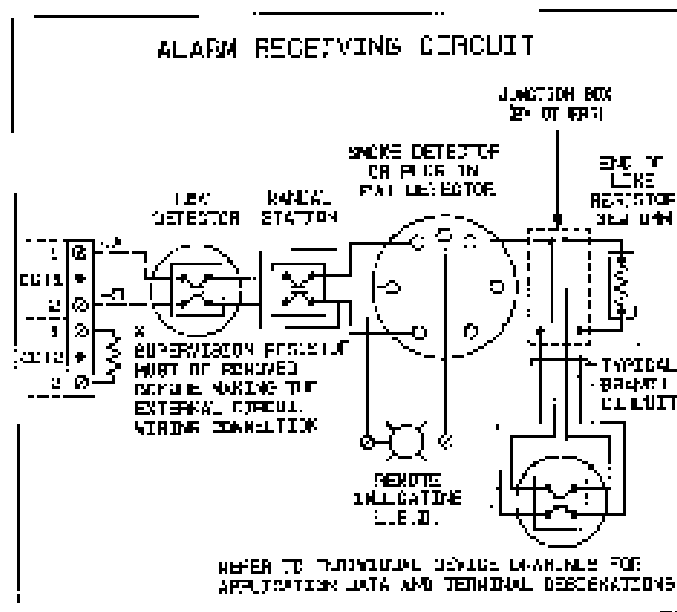

FIG. 3
Install wiring as shown in Figure 3. Also install the Edwards UL Listed 049 ohm, 1/2 watt, end of line resistor (P088480-0068 supplied in parts bag) beyond the last initiating device on the circuit. Test the circuit for opens, grounds and shorts using an ohmmeter as shown in Figure 3.
3. Measure the resistance between ground and (A) and ground and (B). An infinite resistance should be measured in each case.
4. When testing is complete, connect the wiring to terminals as indicated in Figure 3.